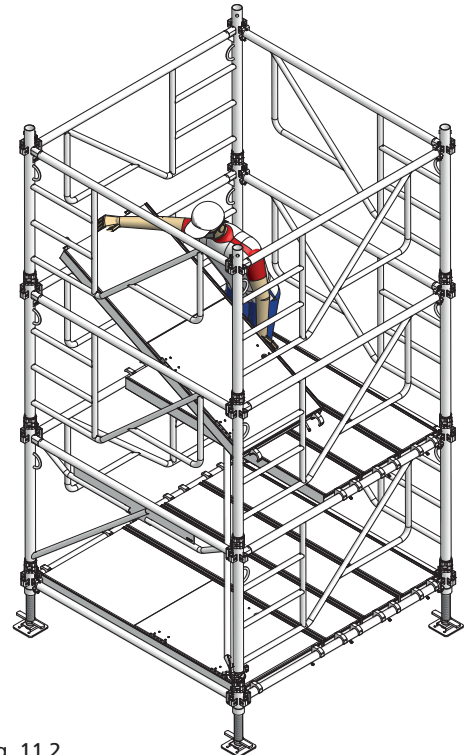

Fig. 11.2
- 15. Remove the scaffold platform with access hatch from level 1 and install it on level 2 (Fig. 11.2).
Always suspend the scaffold platform 170/68 with access hatch in a way that the access hatch opens to frame 100 MT and you can climb up or down the ladder that is integrated in the frame (Fig. 11.2 on page MT-11).